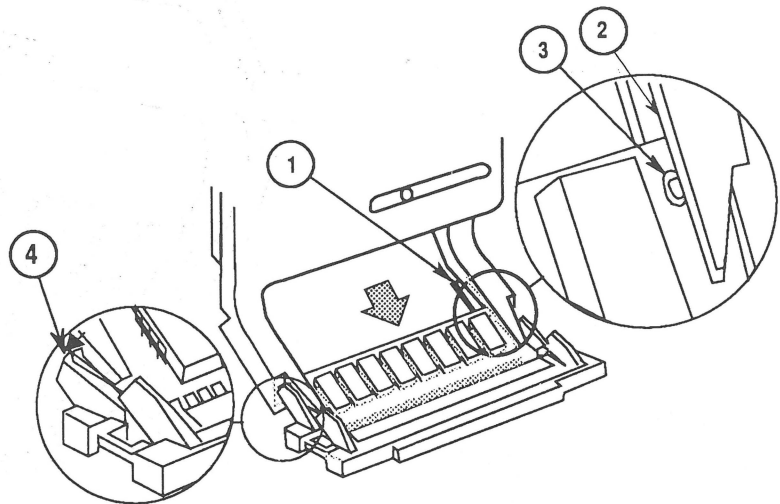

FIGURE 6
2. Place the grooved ends of the tool over the edges of the SIMM board (Figure 6, #1).
3. Gently slide the tool on the board so that the leading edge of the tool (Figure 6, #2) slides over the protruding alignment button (Figure 6, #3) and spreads the SIMM socket tabs (Figure 6, #4).